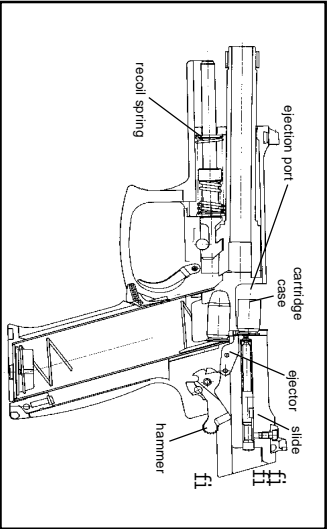

Figure 7 Ejection
D. **Ejection** - (See Figure 7) -The rim of the cartridge case strikes the stationary ejector. The empty case is ejected from the open ejection port.
E. **Cocking** - (See Figure 7) - As the slide continues rearward the recoil impulse is dampened by the buffer spring. The recoil spring is compressed and the hammer recocks.